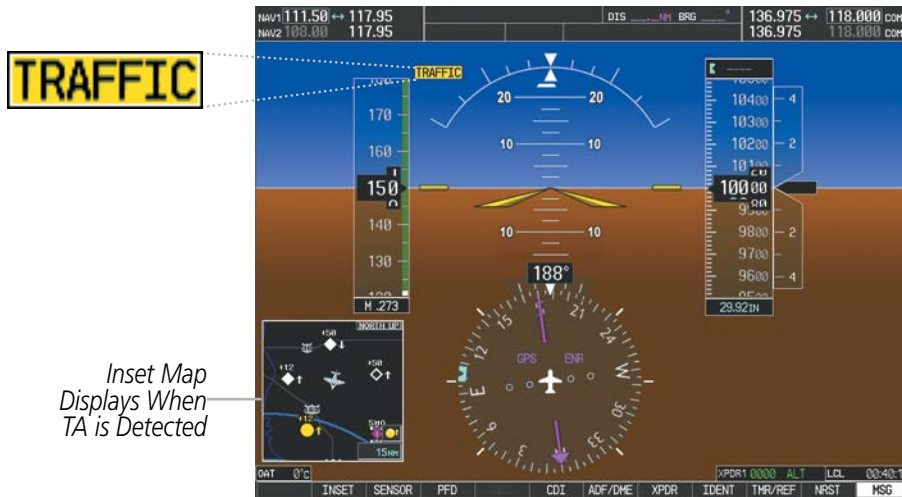

Figure 6-174 Traffic Annunciation (PFD)
- A 'TRAFFIC' Annunciation appears at the top right of the airspeed on the PFD, flashes for five seconds and remains displayed until no TAs are detected in the area (Figure 6-174).